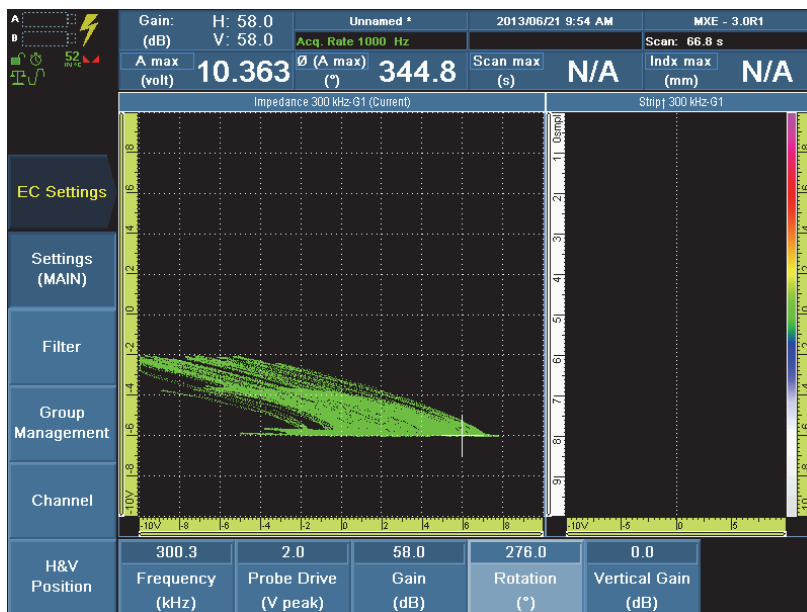

Figure 3-8 The signal amplitude reading field
3. Repetitively and gently lift off and put down the probe on the calibration standard and generate the lift-off signal (see Figure 3-8 on page 61).
3. Turn the Scroll knob until the signal amplitude reaches approximately half the impedance plane view horizontally or almost the entire impedance plane view vertically (see Figure 3-8 on page 61).